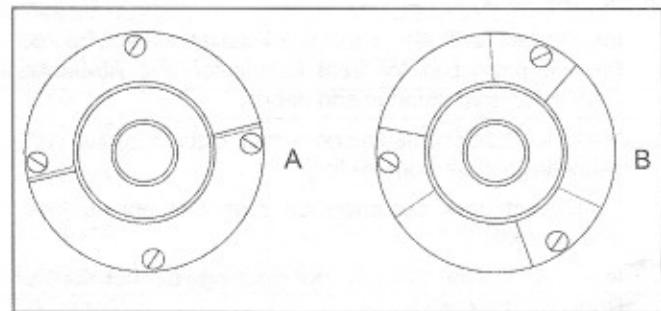

FIGURE 4 - Ceiling Ring
3. Install Ceiling Ring. See Figure 4. Use three (3) sections of the Ceiling Ring to provide closer clearance around Roof Jack.